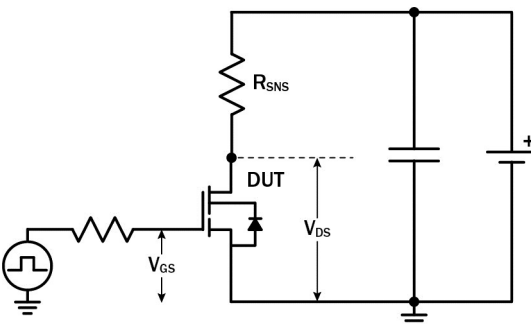

Figure 19. Dynamic $R_{DS(on)eff}$ Test Circuit
- Reflects both static and dynamic on-resistance; dynamic on-resistance test setup and waveform; see Figures 19 and 20 for conditions